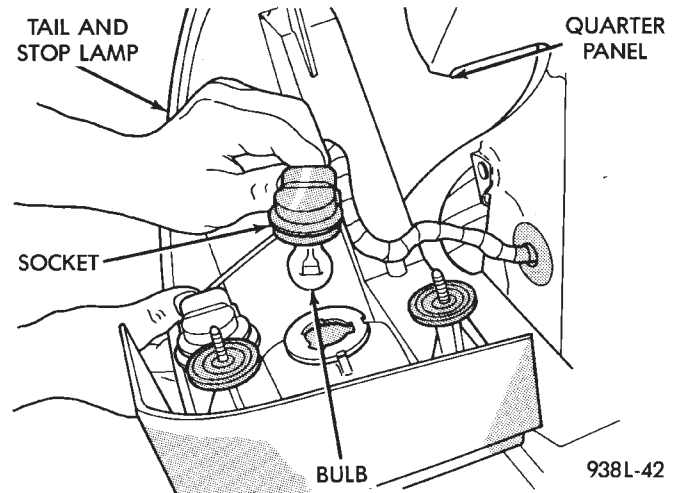

Fig. 4 Tail, Stop, Back-up and Turn Signal Lamp Bulb
- (1) Remove tail lamp from vehicle.
- (2) Remove socket from lamp (Fig. 4).
- (3) Pull bulb from socket.